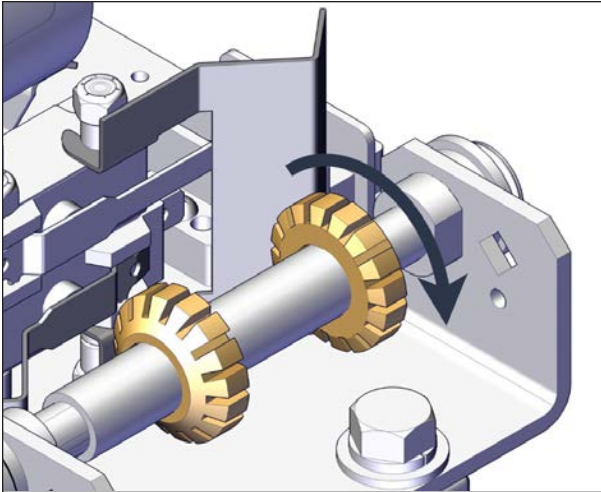

FIGURE 69: CAM WHEELS
4. To reduce the lift up limit, turn by hand the up- cam wheel counterclockwise looking from the cam plate mounting screw side as shown in Figure 69. It has around 4° between each cam wheel tooth and adding or removing a tooth resolves in adding or removing approximately 5/32" (4 mm) on the cover lifting stroke.